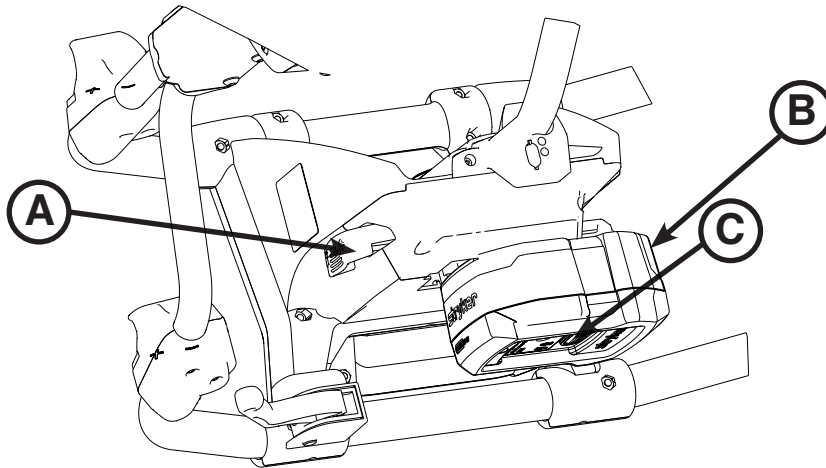

Figure 27: SMRT Pak Removal and Replacement
1. Press the red one hand release button (C) or press the battery release button (A) to release the SMRT Pak (B) from the cot as shown in Figure 27.